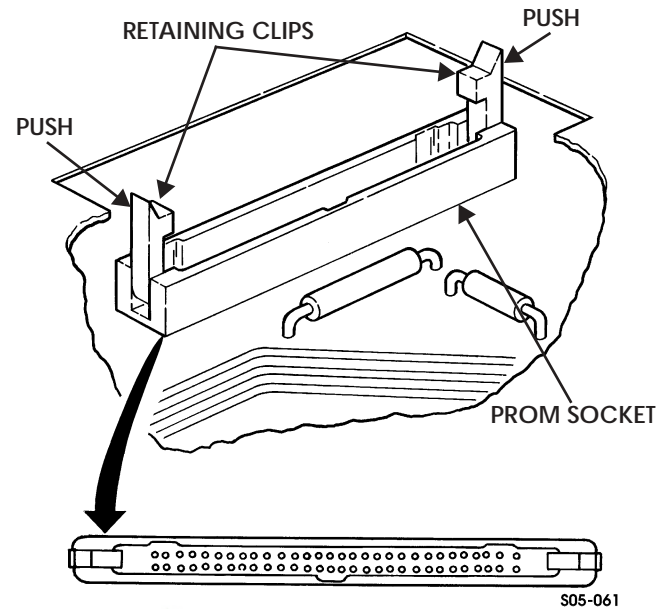

Figure 5-104: Lock Retaining Clips Onto PROM
2. Press straight down gently on ends of PROM until retaining clips are against side of PROM (Figure 5-104).